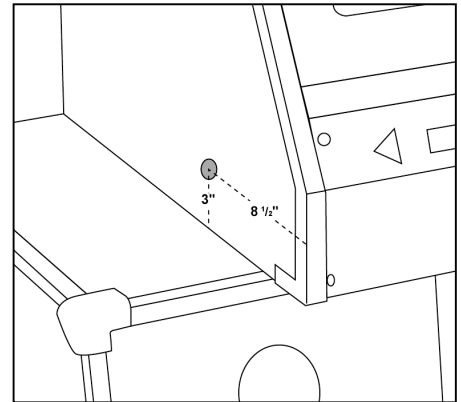

Figure 6: Drill Hole
1. With a pencil, mark a point 8-1/2" back from the front plate and 3" up from the base of the cabinet on which the monitor piece rests. See Figure 6.